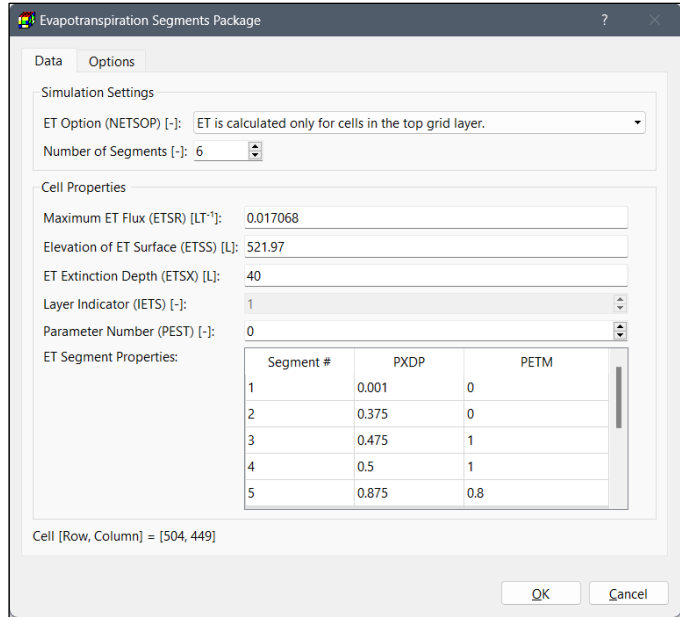

Figure 59. The Evapotranspiration Segments Package dialog box
1. **All input methods:** Figure 59 shows the dialog box for specifying cell, vertex, or polygon properties.